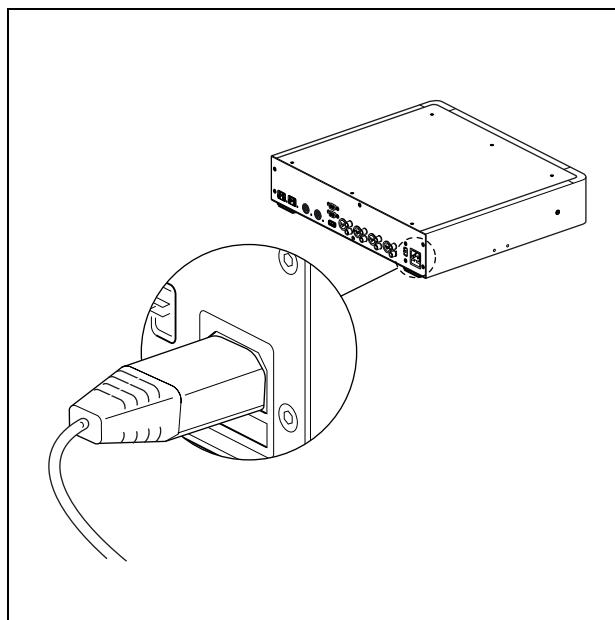

figure 8.3: Connecting to the mains
- 2 Connect a locally approved mains cord to the CCU. (see figure 8.3).